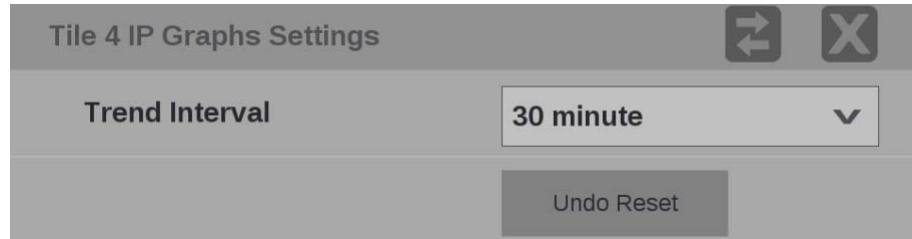

Figure 148: IP Graphs application settings menu
**Trend Interval.** Use the drop-down menu to change the interval to 1 minute, 5 minute, 10 minute, 30 minute, 1 hour, 3 hour, 6 hour, 12 hour, or 1 day. (See Figure 148.)